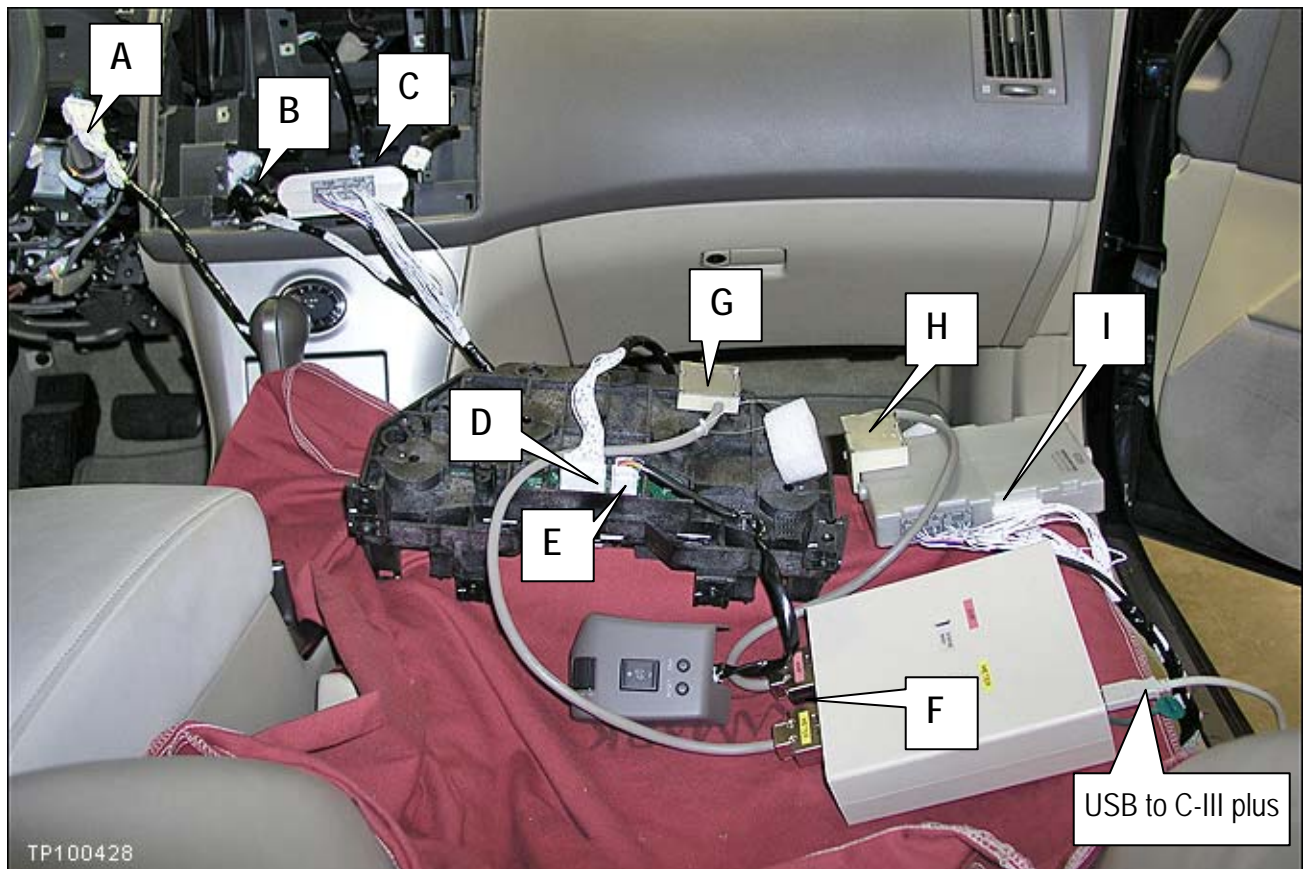

Figure 22
15. Attach the Meter Reprogramming Kit (J-50419) as shown in Figure 22.
- c. Disconnect and reconnect all of the reprogramming cables (see Figure 22 on page 15). Make sure all connectors are securely connected.